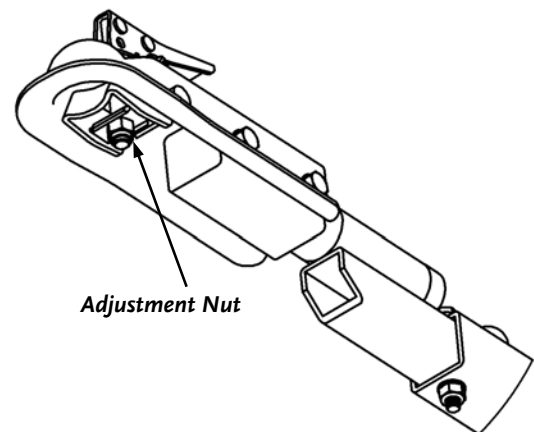

Figure 30
3. Locate the Adjustment Nut on the underside of the Hitch (**Figure 30**). Using a 19mm Socket, or Wrench, rotate the Nut clockwise to tighten and counterclockwise to loosen.